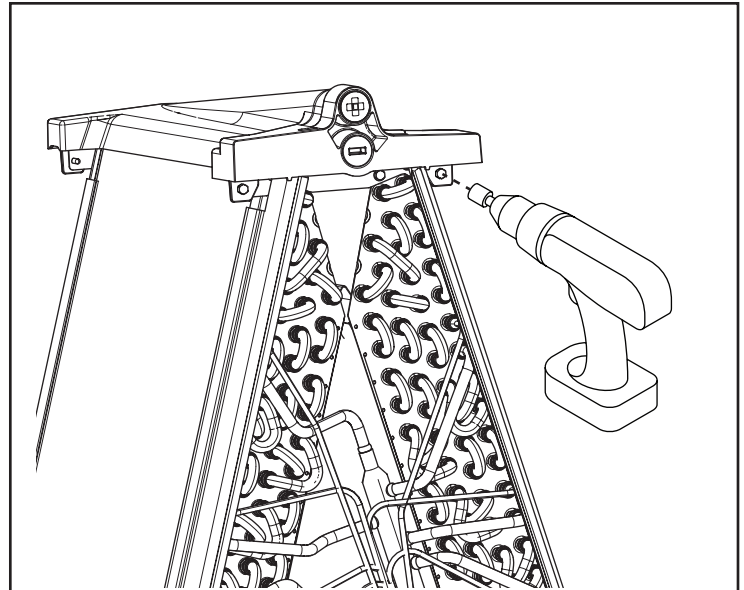

Figure 34 – Attach upflow drain pan
3. Attach the upflow drain pan using the four screws as shown in Figure 34.